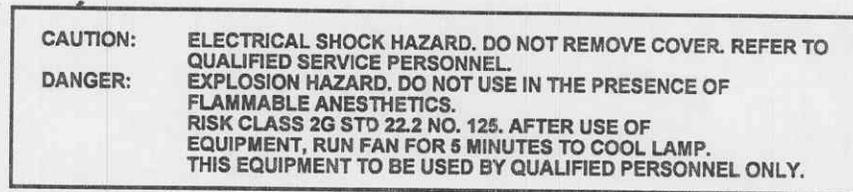

Figure 1-9. Hazard information.
(3) Imprinting providing hazard information (located on each side of the endoscopic instrument light) is depicted in figure 1-9.